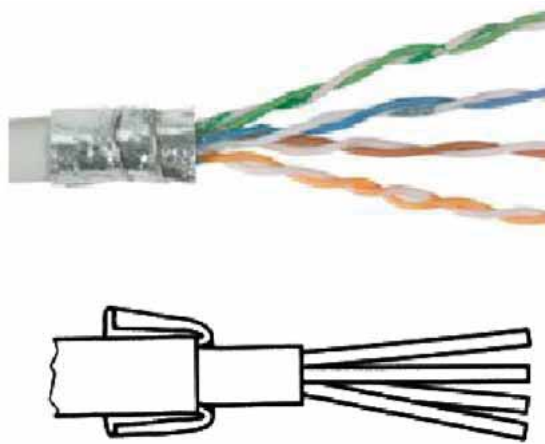

Figure 4.11. CPE Cable Sheathing
3. Form the braiding into two pigtails. The stripped cable should appear as shown in Figure 4.11, “CPE Cable Sheathing”.